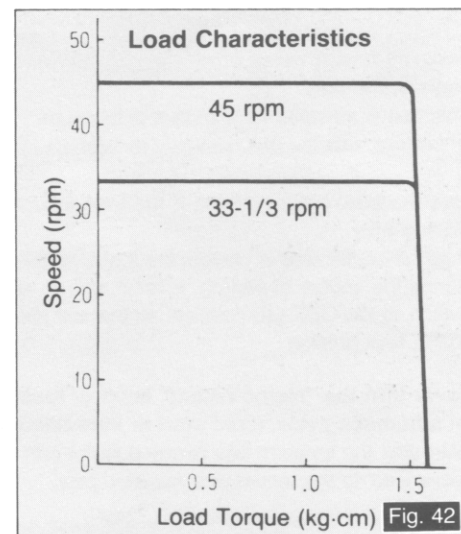

Fig. 42
- **Superior load characteristic of 0 rotational deviation even at a stylus pressure of 300 g.** (Fig. 42).